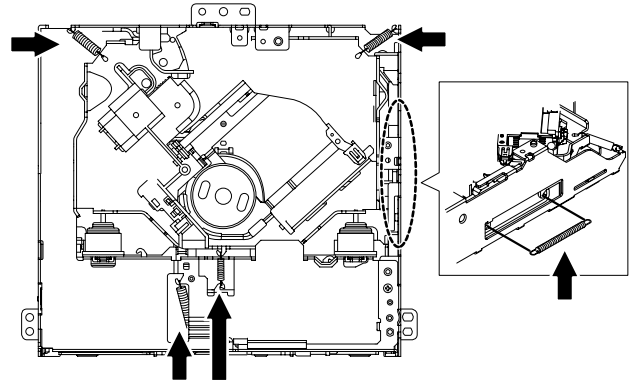

Fig.4
3.2.2 Removing the Traverse mechanism (See Fig.4, 5)
- (1) Remove the 5 springs from the traverse mechanism. (See Fig.4)